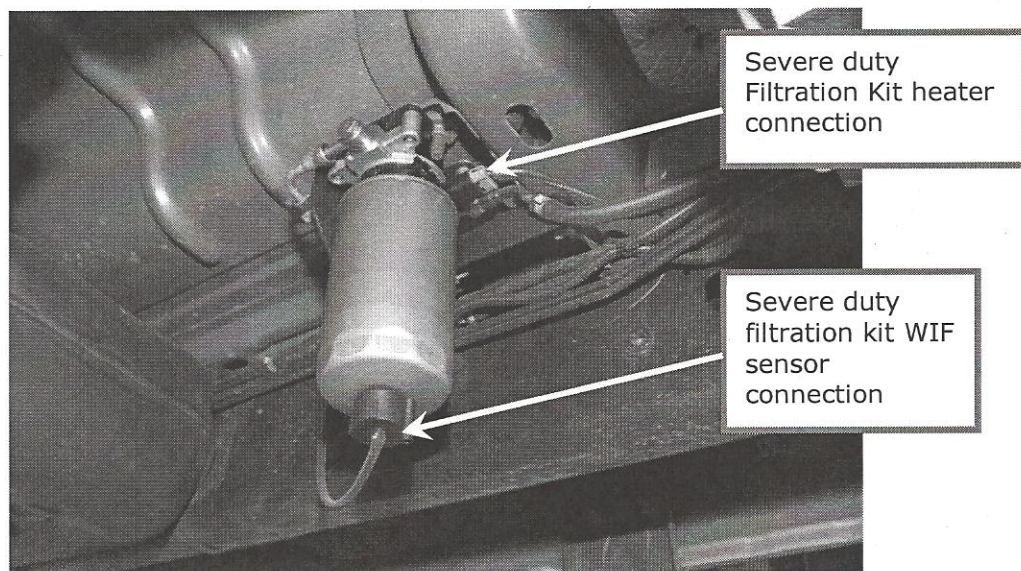

Figure 8
3. Connect wiring connectors to the SDFK WIF sensor and fuel heater (See Figure 8).